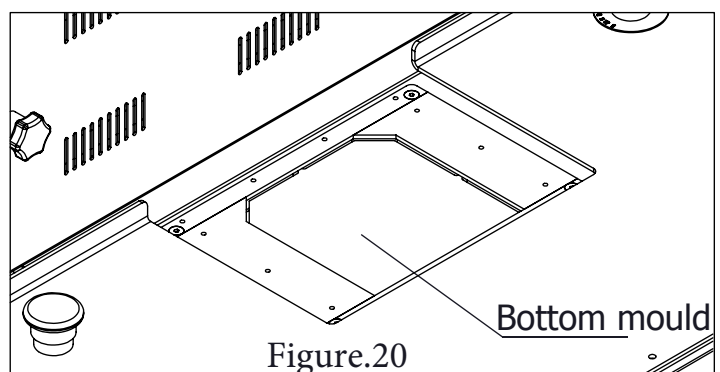

Figure.20
- a) Dismember bottom mould and clean it. (Figure.20)